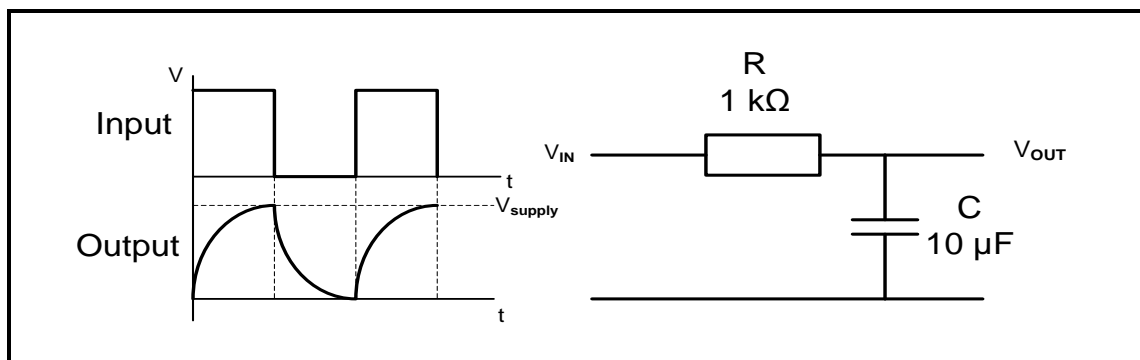

FIGURE 3.6: PASSIVE RC INTEGRATOR
3.6 Refer to FIGURE 3.6 below and answer the questions that follow.